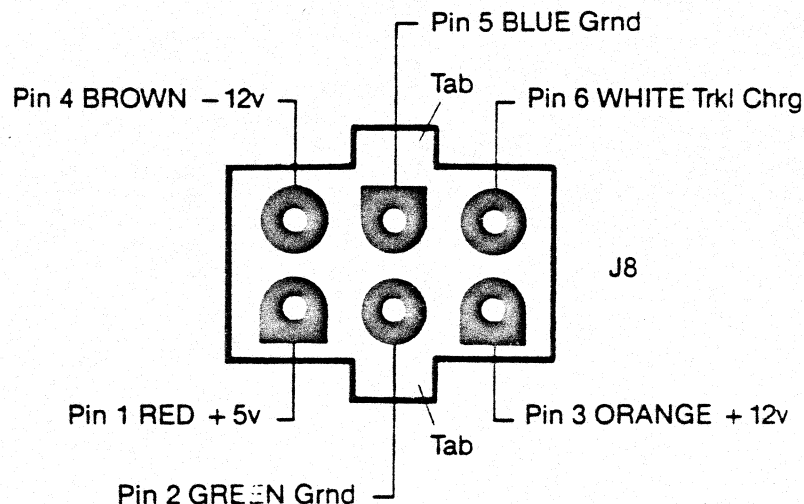

Figure 4-1. Checking Voltages in the System Unit.
- 2) Connect the voltmeter to appropriate pins shown in figure 4-1. Using clip leads will make it easy to perform the next several steps.